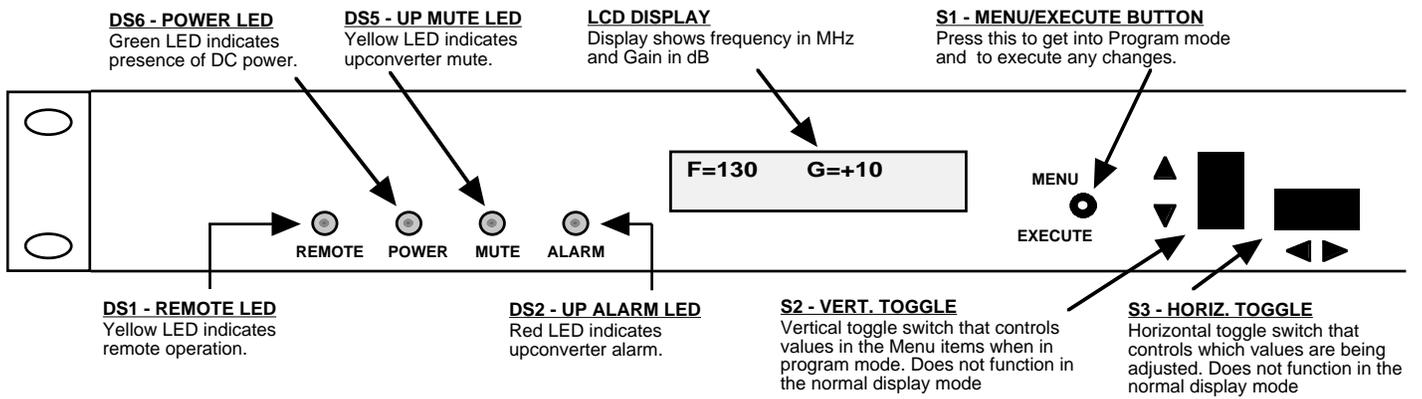

FIGURE 2.2 2015-1351 Front Panel Controls and Indicators
6. Be sure DS6 (green, DC Power) is on and DS2 (red, Alarm) is off (Figure 2.2).
Alarm indications appear on the LEDs (see figure 2.2).